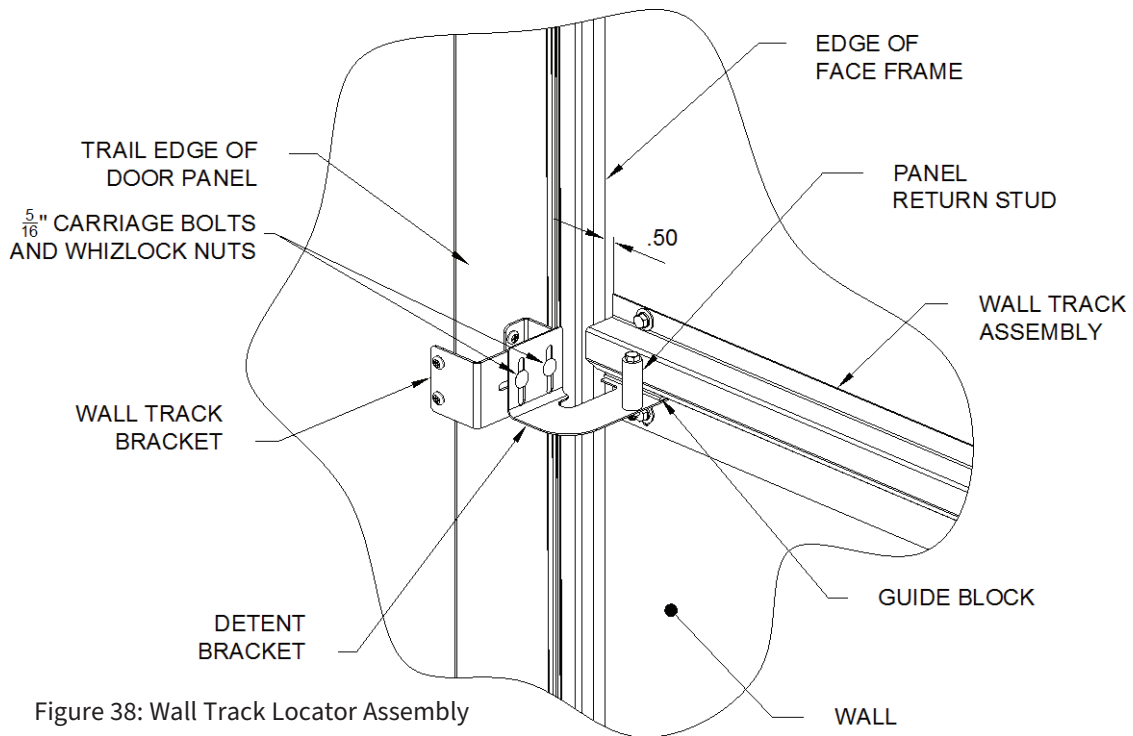

Figure 38: Wall Track Locator Assembly
- 3 Mount detent bracket onto wall track bracket already mounted on door by asi. Hand tighten fasteners (5/16-18 x .75 Carriage bolts and 5/16-18 whizlock nuts) so that detent bracket is approximately centered vertically on slots in bracket (Figure 38).